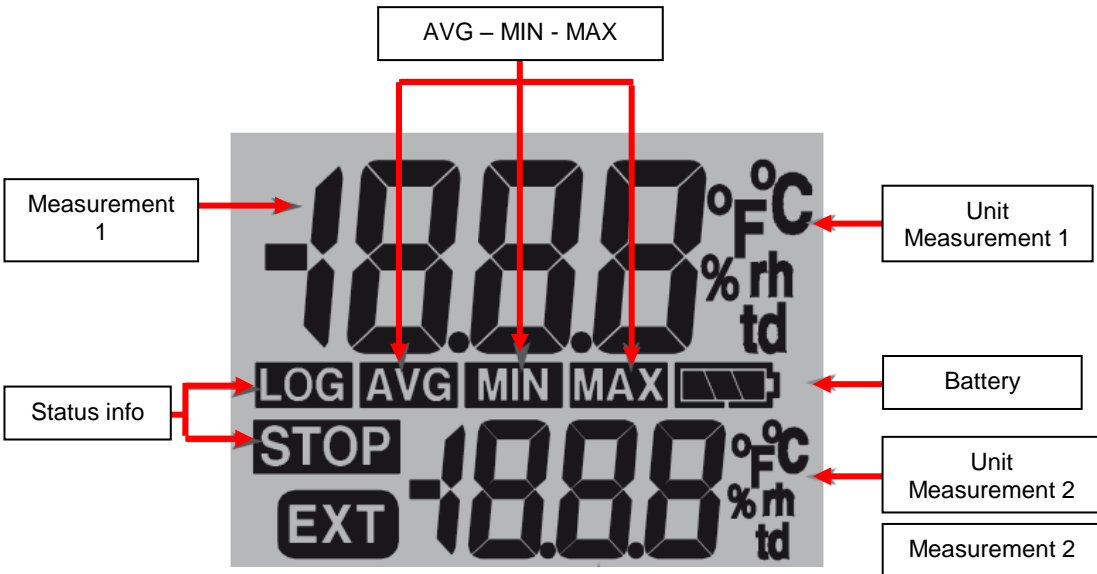
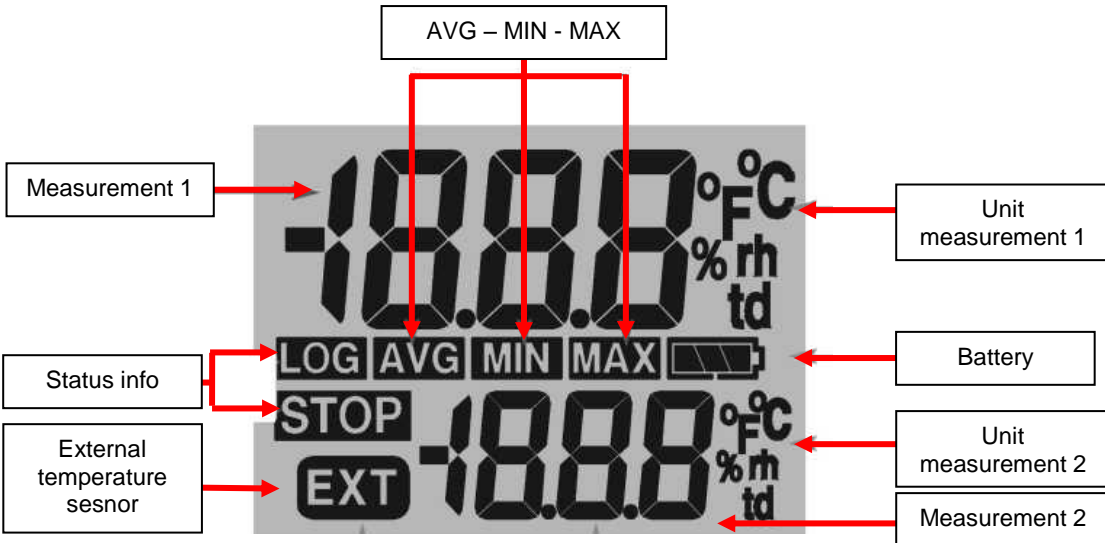

Figure 1-2 Display symbols Klima 20
Figure 1-4 Display symbols Klima 30
2.5 Display elements (figure 1-2 / figure 1-4)